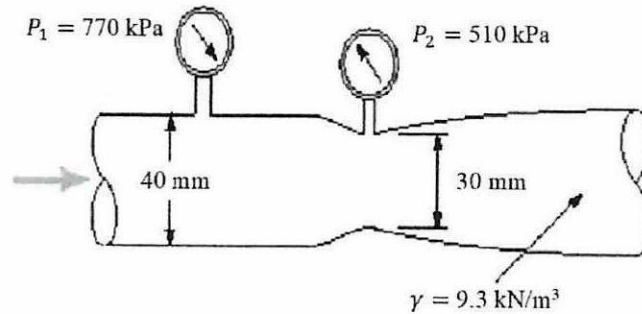

Figure Q1.2
- (e) Estimate the volume flow rate (Q) that goes through a venturimeter as shown in **Figure Q1.2** if ideal conditions exist. (8 marks)